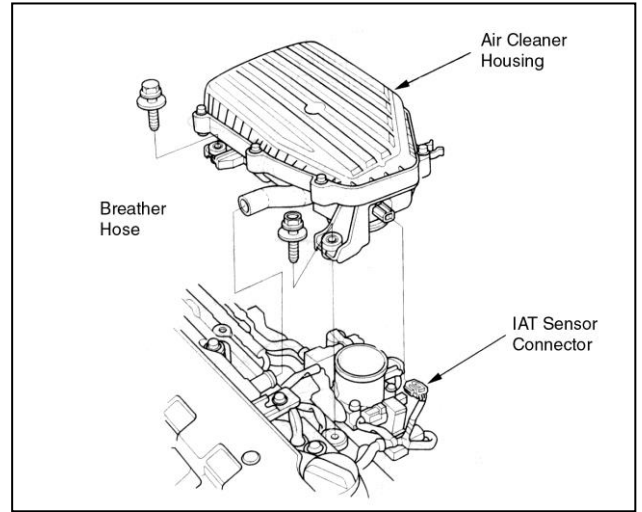

Fig. 8
- i. Remove the IAT sensor connector, and then remove the breather hose. Loosen the hose clamp on the throttle body. Remove the air cleaner housing by removing the two bolts securing it. **(Fig. 8)**